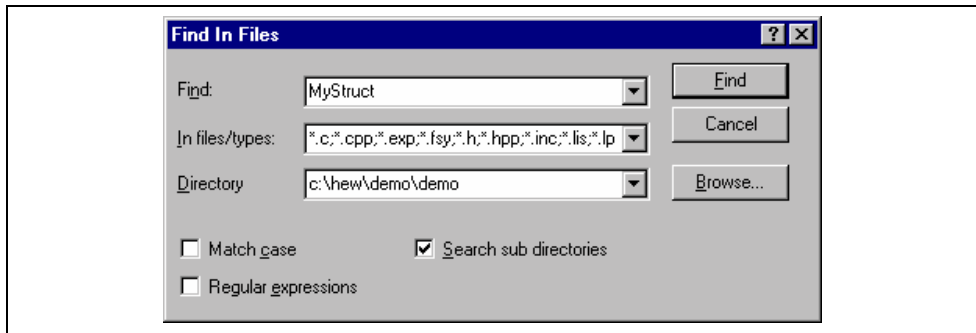

Figure 4.3: Find in Files Dialog
1. Select [**Edit->Find in Files...**], select [**Find in Files...**] from the editor window's local menu or click the find in files toolbar button (). The "Find in Files" dialog box will be displayed (figure 4.3).